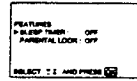

Fig. 17
- 3 Select "SLEEP TIMER" with  $\Delta$  or  $\nabla$  and press OK. (See Fig. 17.) The time period option changes colour.